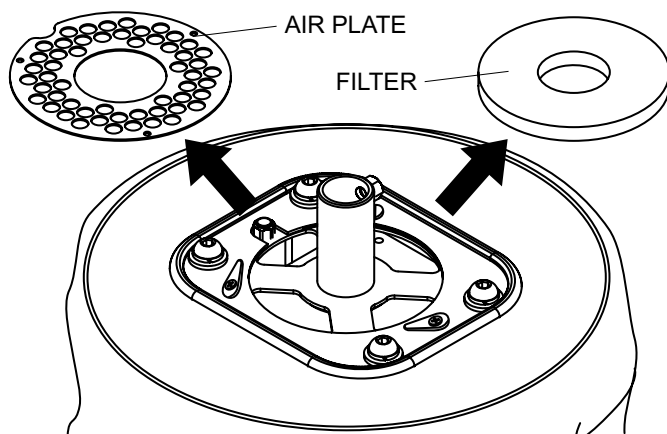

Figure 46. Filter Removal
4. Remove the air plate and filter. See Figure 46.